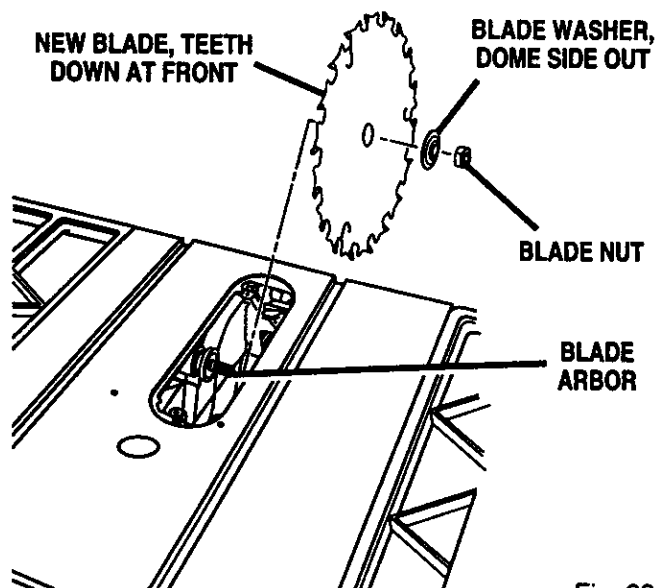
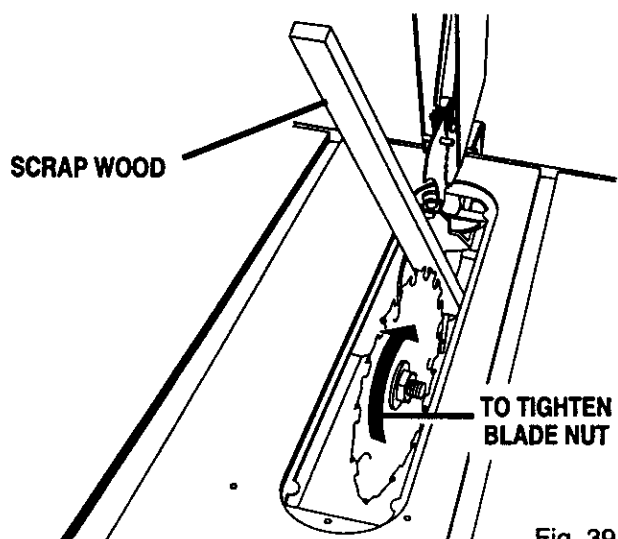

Fig. 38
Fig. 39
- To install a standard blade, place the new blade on the arbor shaft, with teeth pointing down toward the front of the saw. See Figure 38. Wedge a piece of scrap wood at the back of the blade. See Figure 39.